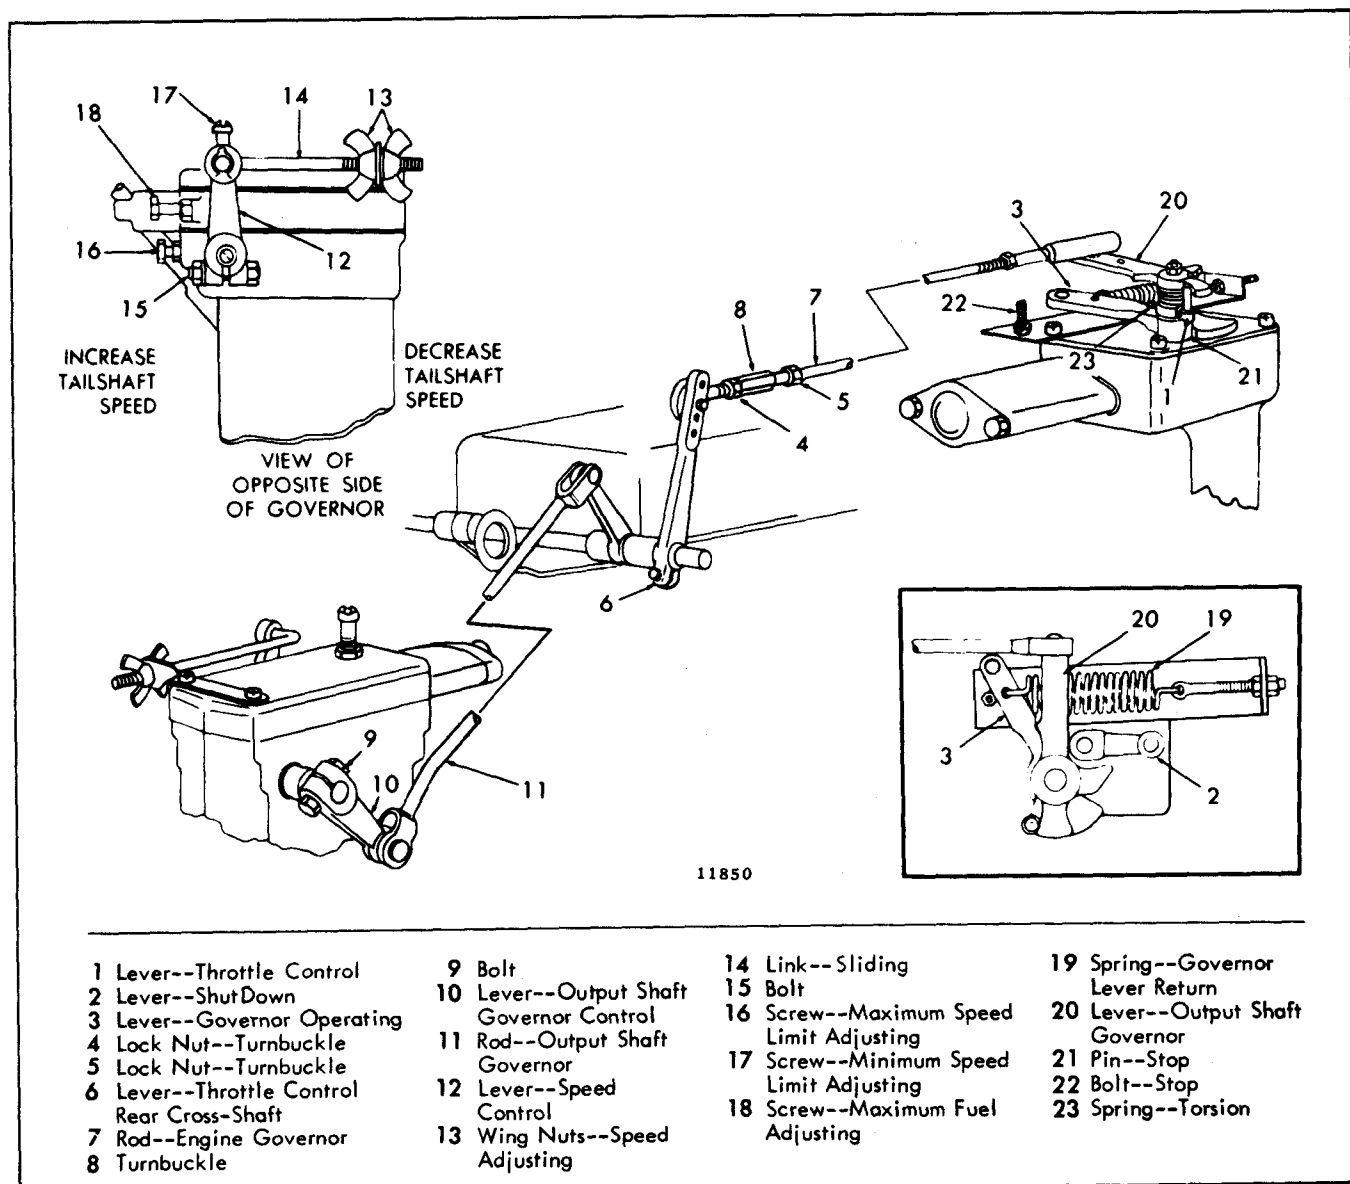
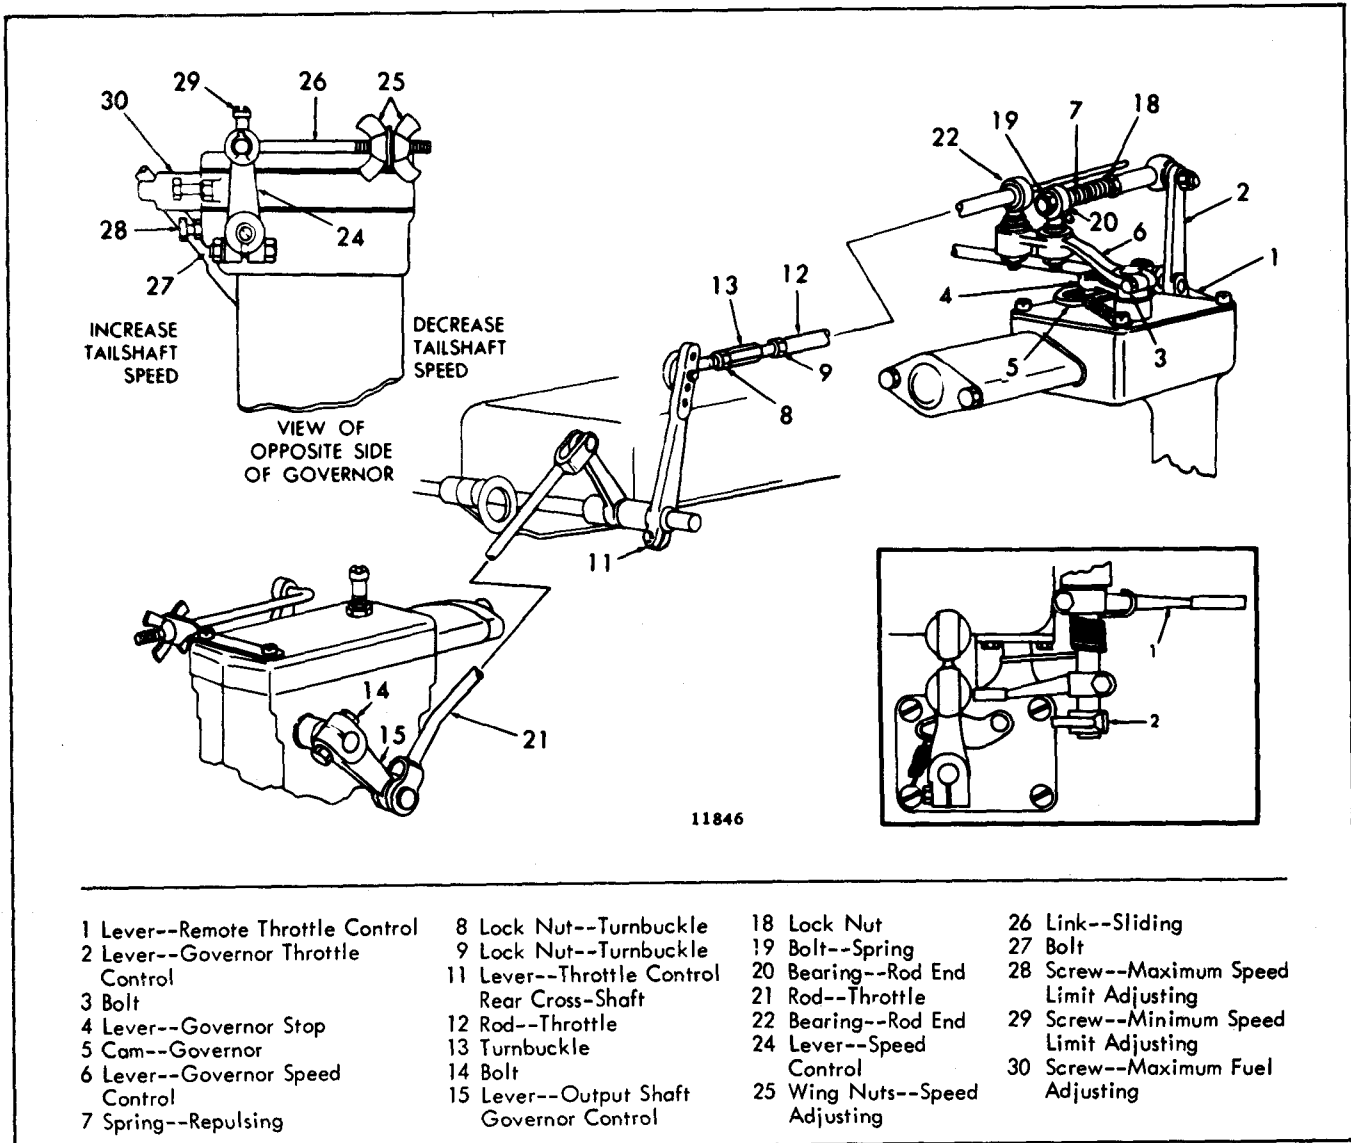

FIG. 1 - Hydraulic Output Shaft Governor and Linkage (Type A)
Fig. 2 - Hydraulic Output Shaft Governor and Linkage (Type B)
The output shaft governor is connected to the engine governor by control rods and levers (Figs. 1 and 2). The control rod end ball joints are sealed assemblies and do not require lubrication. However, the throttle control shaft bearings should be lubricated periodically with all purpose grease through the grease
In some types of operation, such as laying of structural steel, it is desirable to operate the unit with a very low output shaft speed. This speed could be so low that the output shaft governor ball head assembly would not actuate the governor pilot valve and spring seat assembly. In such applications, the engine governor operating lever (6), Fig. 1, or the remote throttle control lever (1), Fig. 2, used as an overrule lever, can be moved toward the idle speed position sufficiently to provide the desired low output shaft speed. Output shaft speeds down to zero can be obtained through this type of engine governor control. The engine governor would maintain control unless the output shaft speed increased to the speed setting of the output shaft governor.
#### Adjustments (Type A - Fig. 1)
The engine governor throttle control lever (Fig. 1) is pinned to the throttle shaft. The engine governor operating lever is mounted below the throttle control lever and rides on the throttle shaft boss on the governor cover. The output shaft governor lever is mounted above the throttle control lever and is retained on the shaft by a snap ring. A stop pin, pressed into the throttle control lever, transmits movement of the output shaft governor lever and/or engine governor operating lever through the throttle control lever to the injector racks. The torsion spring, used to retain the throttle control lever stop pin against the output shaft governor lever, yields to permit the governor operating lever to move the throttle control lever toward the idle position, regardless of the position of the output shaft governor control lever. A slot in the underside of the governor cover hub limits the travel of the throttle control lever in both the maximum and minimum speed positions.
1. Connect the linkage to the governor operating lever and check the total travel of the lever (Fig. 1). The lever should move to the stop bolt in one direction and the governor lever return spring should move the lever, in the other direction, until the throttle control lever reaches the end of its travel.
### Adjustments (Type B - Fig. 2)
1. Place the remote throttle control lever (1) in the maximum speed position (Fig. 2).
2. Move the governor speed control lever (6) and governor stop lever (4) into the "idle" notch in the governor cam (5). The repulsing spring (7) should be fully compressed when the stop lever reaches the "idle" notch of the governor cam.